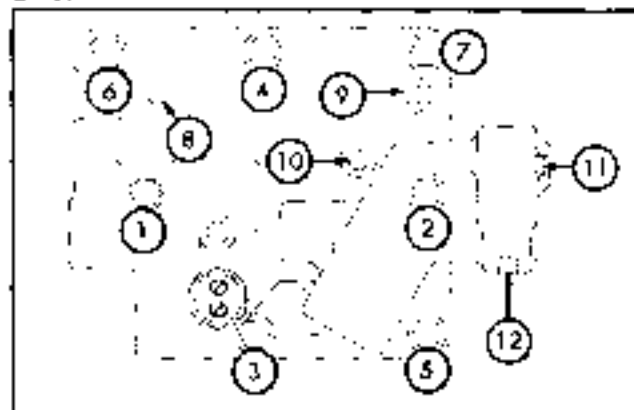

Fig. 1-36. Torque sequence and test parts
c. Insert directional spool (2) in body. Then slip seals over spool -- DO NOT PUSH SPOOL THROUGH SEALS. The lip end of the inner seal must face in, the lip end of the outer seal must face out.
d. Install assembled valve to case, with gasket (36) and ball and spring (3 and 4) in position.
e. Torque the mounting bolts evenly and gradually to 20 to 25 foot-pounds, in the sequence shown in figure 1-36.